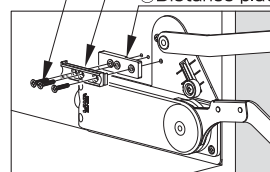

Fig. 8
- Line the distance plate ⑧ and the holder ⑦ with the holes for the damper (Fig. 8) and secure them with screws ⑨.
- Slide the damper ⑥ into the holder from the front side.
⑤ Binding tapping screw (3.5×15)